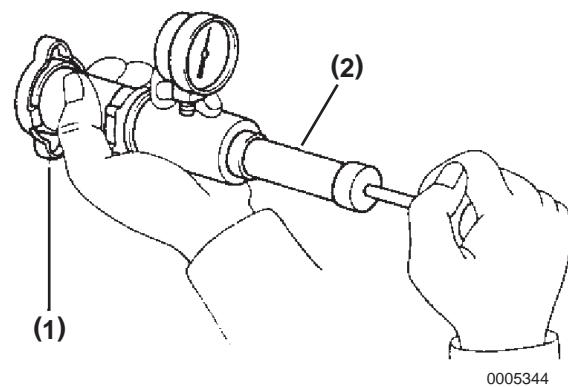

Figure 7-16
2. Check the pressure cap. **NOTICE:** If the pressure cap (**Figure 7-16**, (1)) is contaminated by foreign matter, wash with water. Measure the valve opening pressure by applying pressure to the tester, using the pressure cap tester (**Figure 7-16**, (2)).